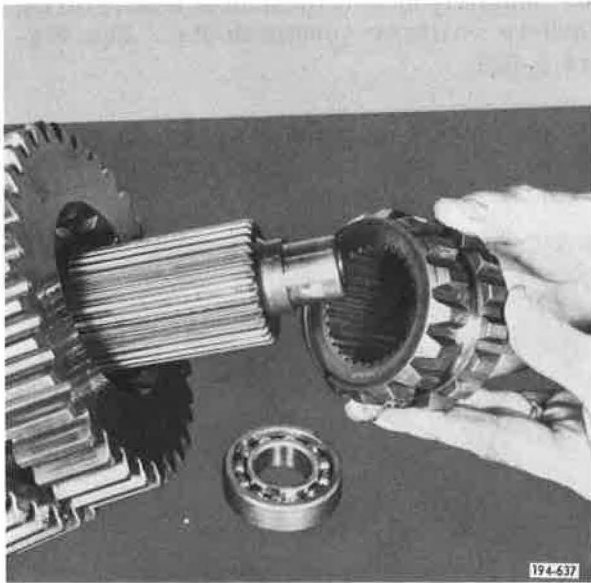

Figure 5-515. Installing Clutch
18. Install fourth/fifth speed sliding clutch. See Figure 5-515.